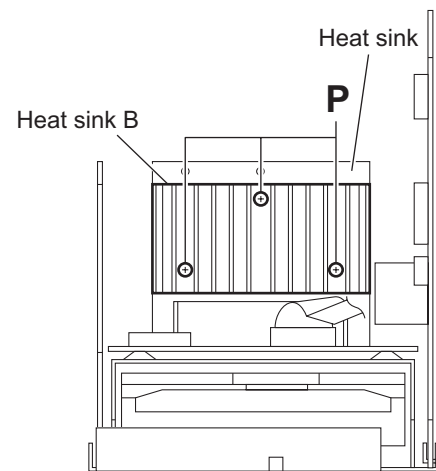

Fig.20
(See Figs.20 and 21)**
- (1) From the front side of the main body, remove the three screws **P** attaching the heat sink B to the heat sink. (See Fig.20.)